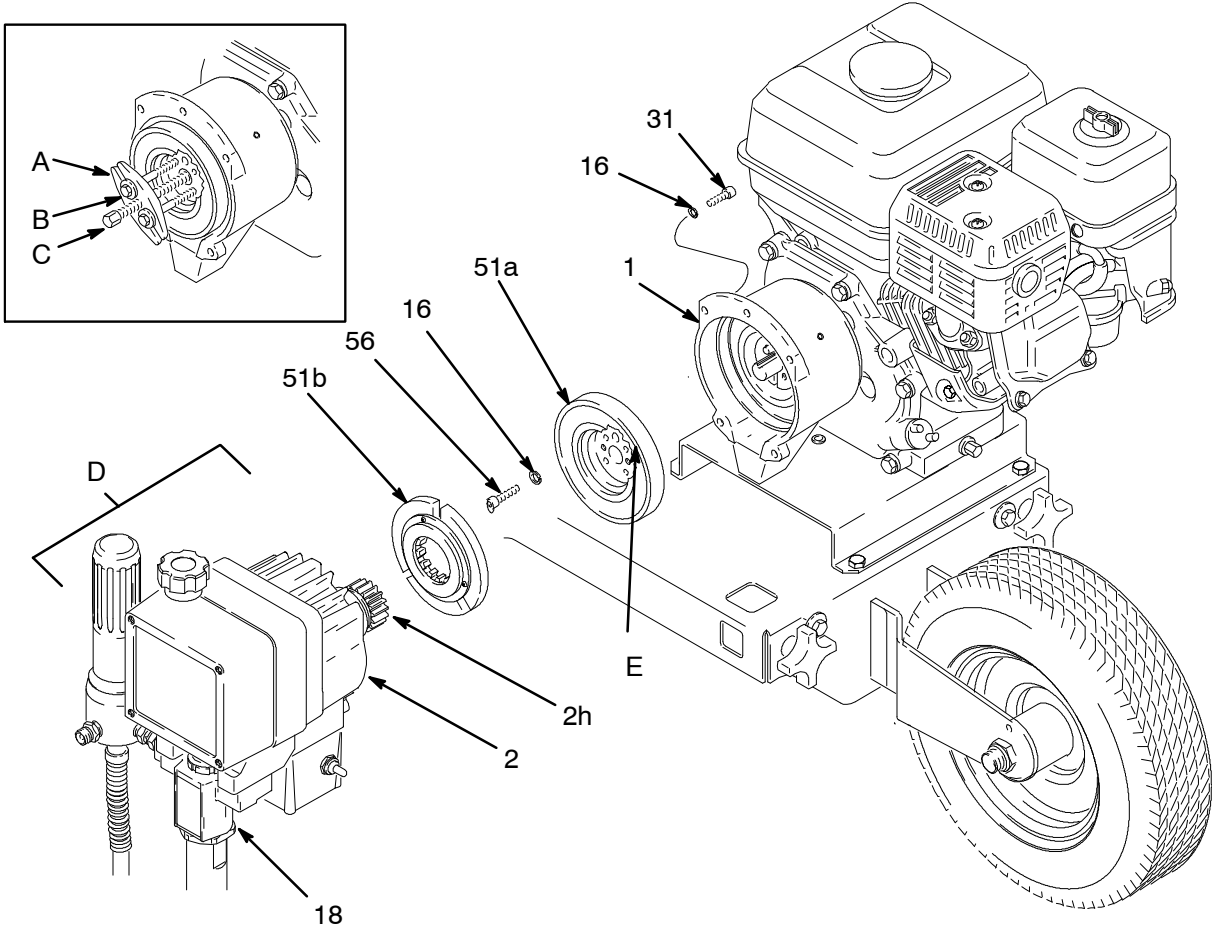

Fig. 17
NOTE: Refer to Fig. 17 for this procedure.
- a. Remove the four socket head capscrews (56) and lockwashers (16). Install two of the screws in the threaded holes (E) in the rotor. Alternately tighten the screws until the rotor comes off. See Fig. 17.
- b. You can use a standard steering wheel puller (A). However, two 1/4-28 x 3 or 4 in. long screws (B) are also needed. Replace the short screws of the steering wheel puller with the longer screws (B). Turn the screws (B) into the threaded holes (E) of the rotor (51a). Tighten the capscrew (C) of the tool until the rotor comes off. See the Detail in Fig. 17.